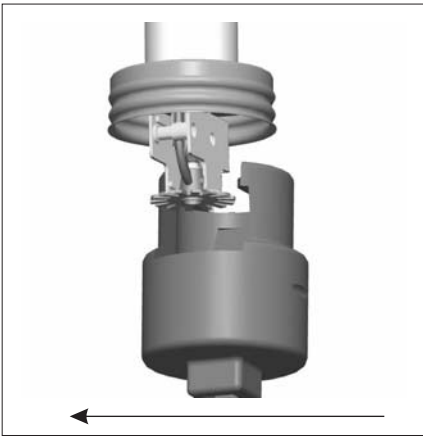
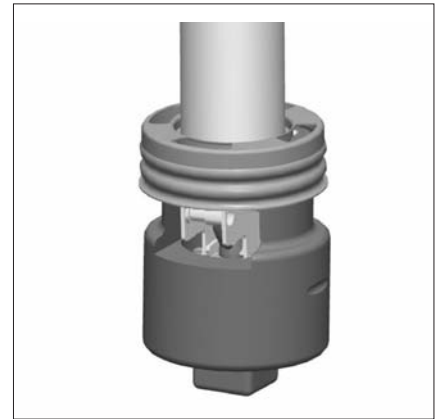

Fig. 1 - G3 R/C Wrench
Fig. 3 - G3 R/C Wrench
- The Model G3 R/C Wrench (Fig. 1) is designed to locate on the wrenching pads of the Recessed sprinkler while centering in the cup. A standard ½" drive ratchet may be used to drive this wrench. Figures 1 and 2 show sequentially the insertion of the wrench. First, the wrench, with its jaws above the sprinkler deflector, is moved laterally until centered with the cup. Then raise the wrench inside the cup until its jaws engage the sprinkler's square wrenching pads (Fig. 3). To remove the wrench, follow this procedure in reverse order. Care should be taken to avoid striking the deflector with the wrench.